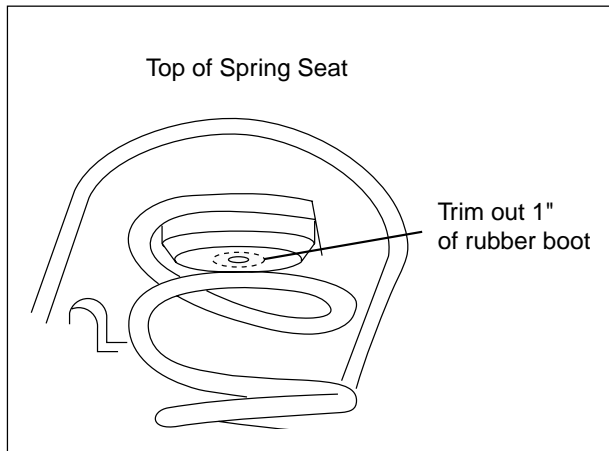

Figure 2
- b. **IMPORTANT:** For Suburbans, Tahoes and Yukons it will be necessary to trim the rubber isolater at the top for the vavle stem clearance (Figure 2). Insert flattened air cylinder into coil spring through lowest opening with the stem at the top (Figure 1b).